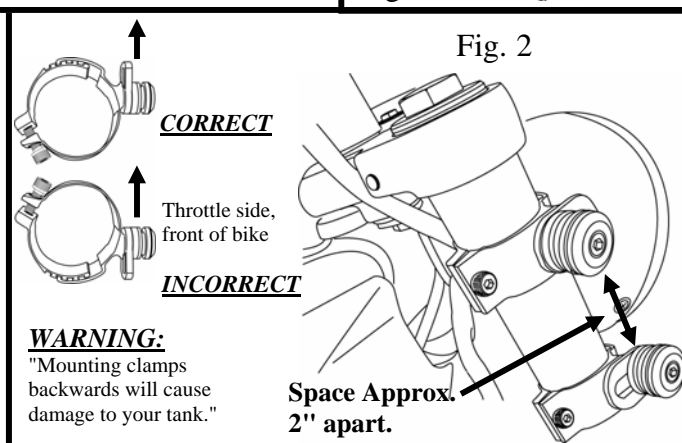

Fig. 2
3. Loosely install the four Fork Clamps on the forks, approximately 2" apart. (see figure 2)